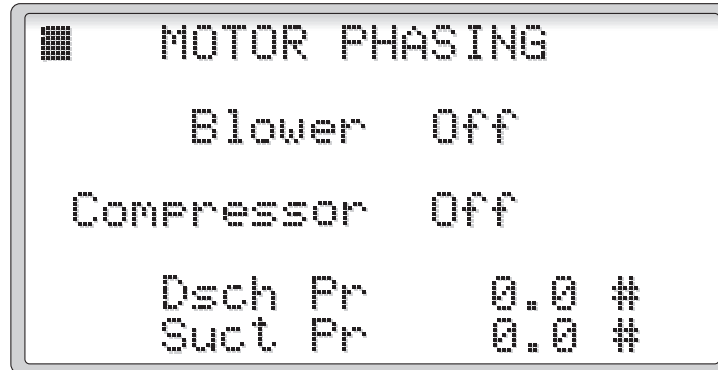

Figure 38
2.3.4.1.8 Motor Phasing (Figure 38)
Selecting the MOTOR PHASING from the Commissioning Menu displays the MOTOR PHASING screen (Figure 38). Turning the Blower 'On' will run the blower for 1 second to allow for the motor rotation to be checked. This is required for units connected to 3 phase electrical power. Turning the Compressor 'On' will run the compressor for 3 seconds. The discharge and suction pressure are shown on this screen for a check of current compressor rotation.